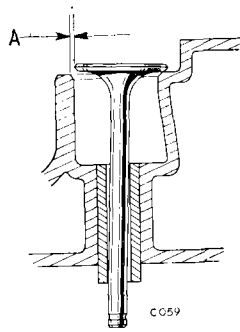
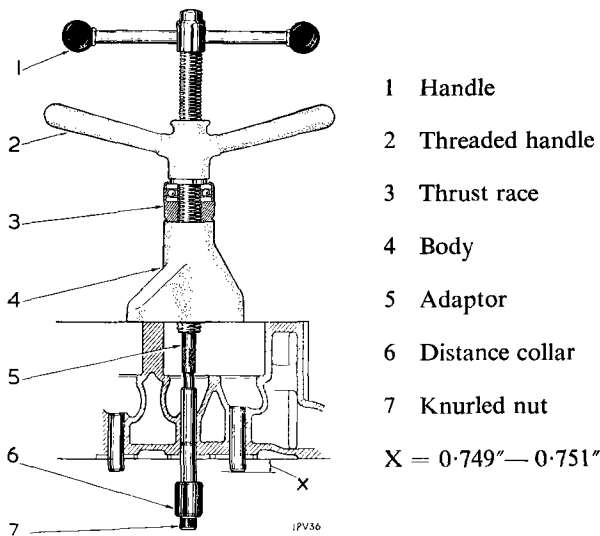

Fig. 30. Checking valve guide wear
Fig. 31. Renewing valve guides
Check the valve guide wear by inserting a new valve, lifting it $\frac{1}{4}$ in. (3.2 mm.) from its seat and rocking it sideways (Fig. 30). Movement of the valve head across its seat must not exceed 0.020 in. (0.5 mm.). If required, renew the guide by using Churchill Tool No. S.60A-6 (Fig. 31).
With the chamfered edge leading, pull the new valve guide into the cylinder head from the valve spring side. Use of the correct limiting sleeves (item 6, Fig. 31) will ensure that the guide protrudes the correct distance of 0.75 in. (19.05 mm.) above the cylinder head when fitted. Always reface valve seat after renewing guide.